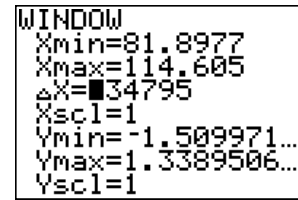

Figure 62
- Figure 62 shows the calculated values.